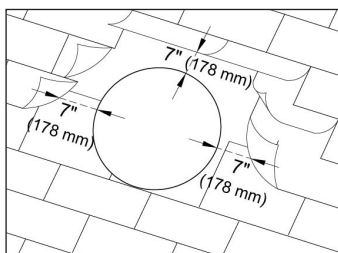

Figure 4
5. **Roll back upper shingles**... 7" (178 mm) from top and sides; make sure all roofing nails have been removed. See Figure 4.